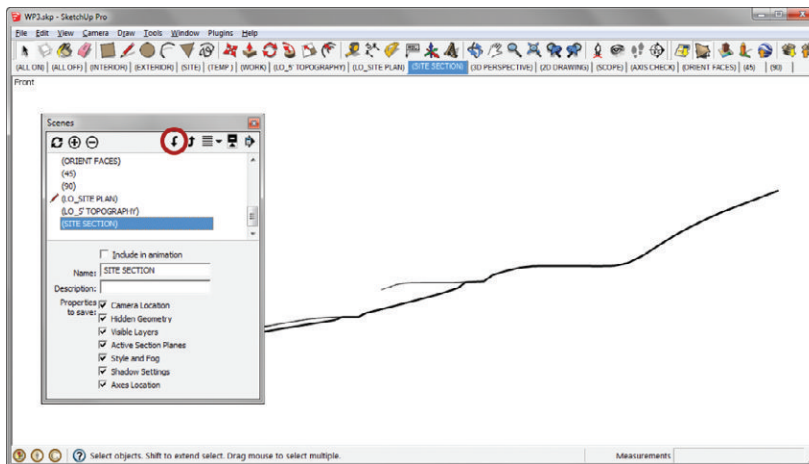

Figure 15.24 The final site section scene
8. Click the Move Page button to slide the new scene to the end of the line (Figure 15.24).